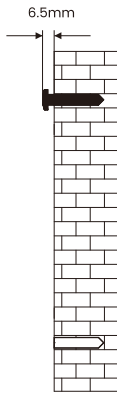
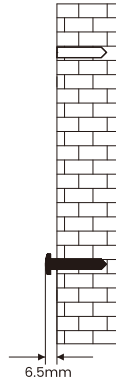

Figure 5
Figure 6
Step 3: For Upright Installation, place the nail into the upper hole (Figure 5). For Upside Down Installation, place the nail into the lower hole (Figure 6). Secure the appliance to the wall with the nail.